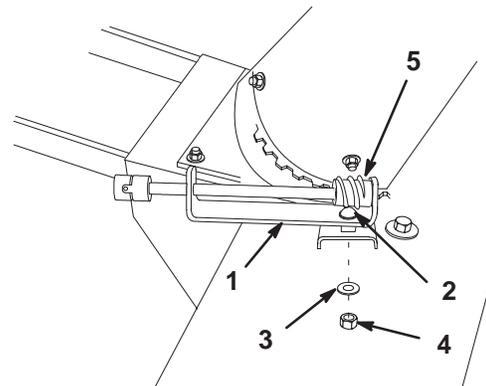

Figure 6
- Install the discharge chute rotator assembly into the slot in the housing with a carriage bolt (5/16 x 1 in.) (head to the top), pyramidal washer (5/16 in.), and locknut (5/16 in.) (Fig. 6).